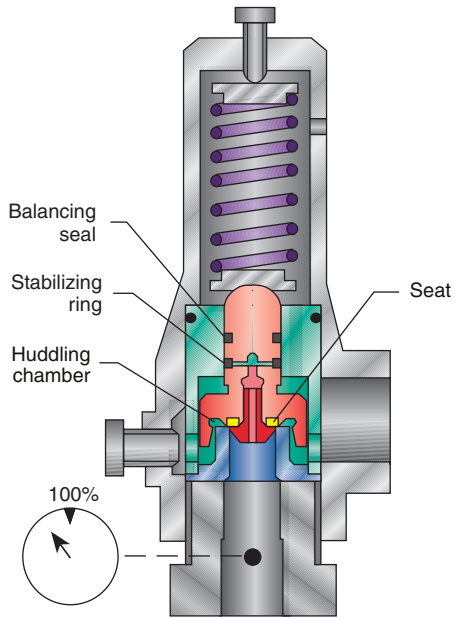

Figure 7
1. With system pressure below set pressure, the valve will be completely leak-free, through the use of a replaceable soft seat (see Figure 7, page 49).